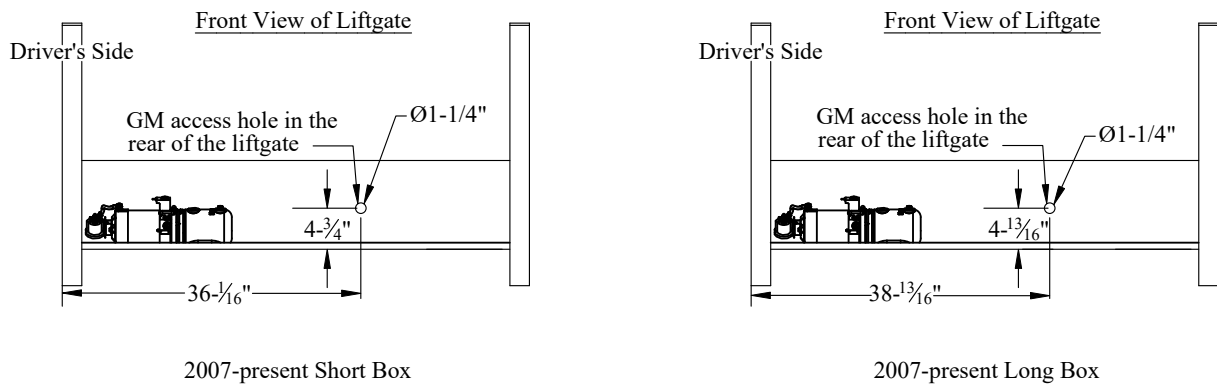

Figure 12: Spare tire access holes.
2. **Remove and Discard** the black plastic plug from the mainframe in the location shown (Figure 12).